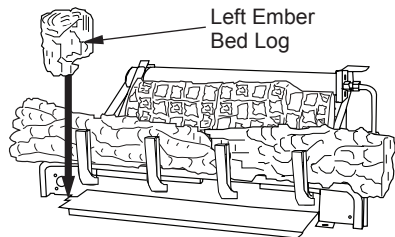

Figure 40 - Installing Left Ember Bed Log
4. Place left ember bed log as shown in Figure 40. The log has groove on one side that sets on the ember bed pan. The back side of this log needs to rest against the front of the base assembly. Make sure the flame from the ember pan does not touch the ember bed log.